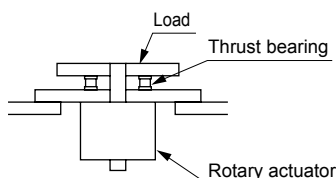

Fig. 1
■ An axial load (thrust load) on the vane shaft may cause faulty operation to occur. Therefore, do not apply such loads. If this is unavoidable, use a structure with a thrust bearing as shown in Fig. 1.